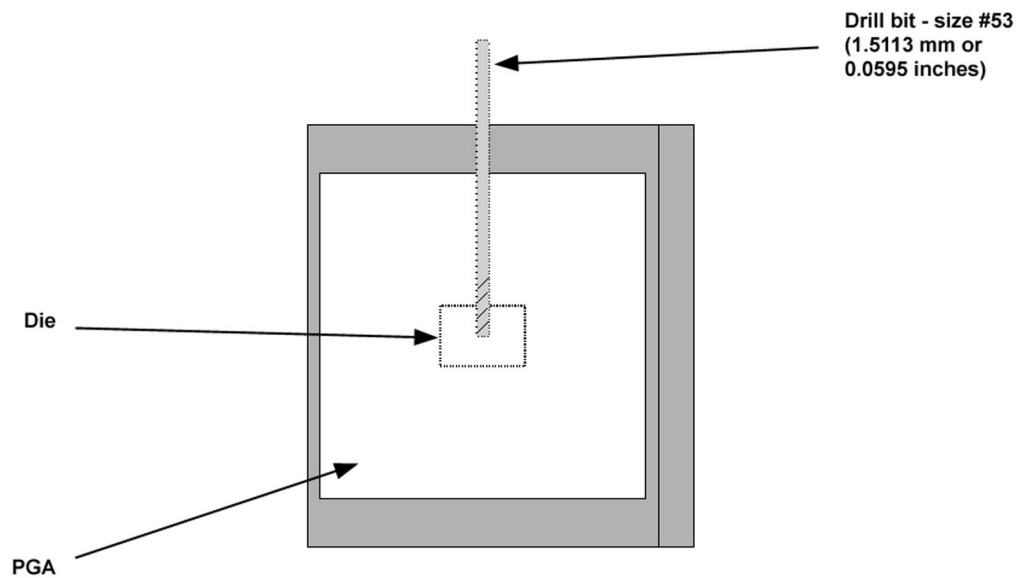

Figure 8. Bottom View of Heatsink and Drill Depth
2. Drill a hole at the marked location using a #53 drill bit (1.5113 mm or 0.0595 inches). If the heatsink is symmetric in relation to the processor package, drill to a depth of half the width of the heatsink. If it is not symmetrical to the processor, drill to a depth that is directly over the center of the die, as shown in Figure 8.